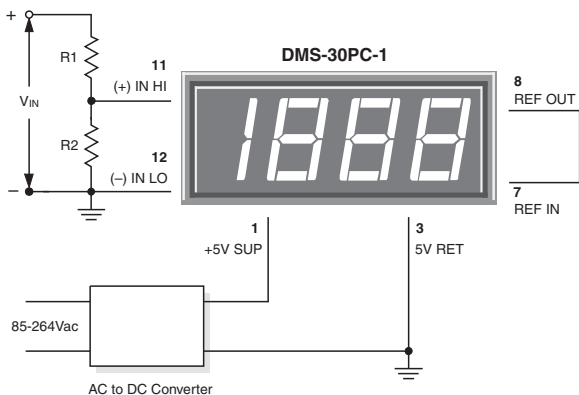

**Figure 3.** Differential Input Configuration
**2. Differential Input Configurations:** Differential measurements can be made with all DMS-30PC meters. Figure 3, though not a practical real-world application, uses a voltage divider to demonstrate the concept of a differential input signal. Be careful not to exceed the  $\pm 2V$  common mode voltage limitation for 5V-powered meters.